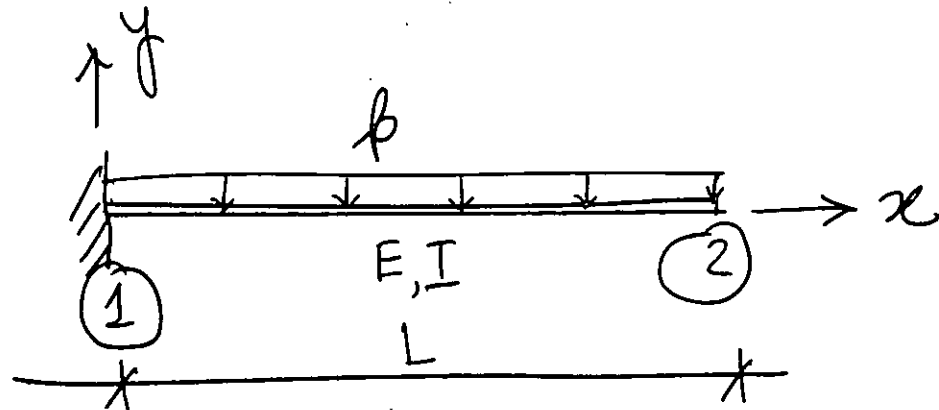

Figure 4
- b. A cantilever beam shown in Figure 4 is subjected to a distributed load. Write down global FE equation for the beam. Find out (i) deflection and rotation at the right end and (ii) Reaction force at and moment at the left end.